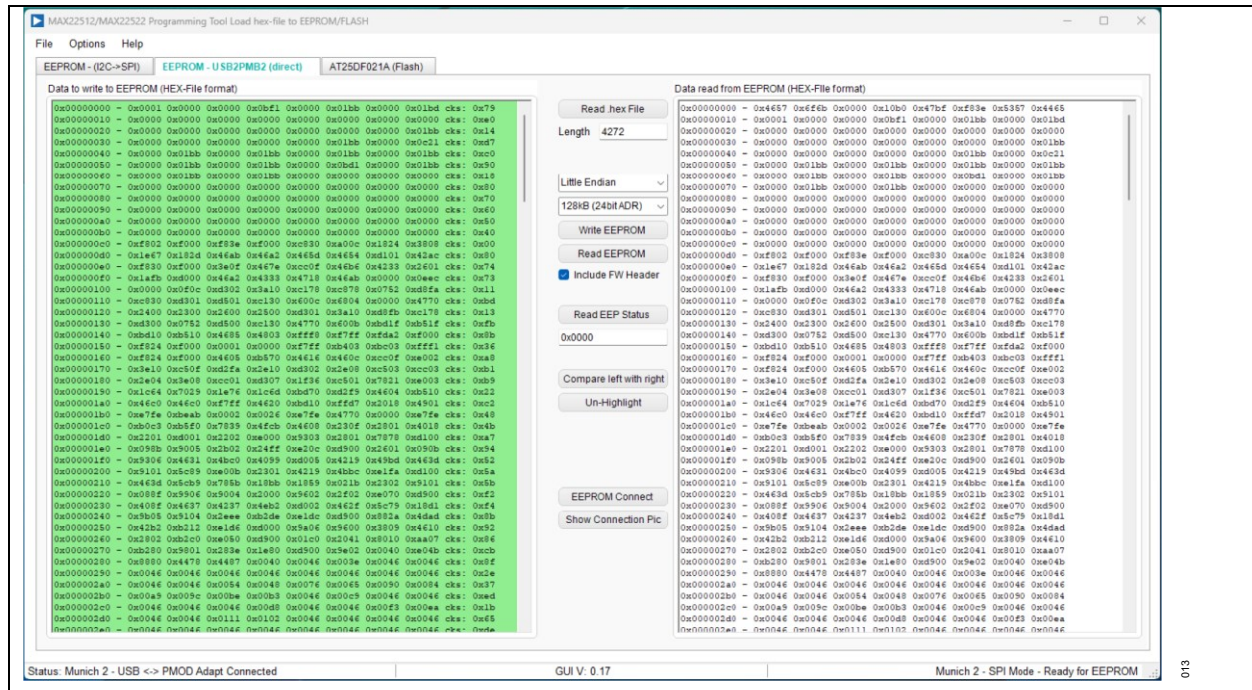

Figure 12. Data Read from EEPROM Window after EEPROM Write
- To verify data is programmed to the EEPROM, click the **Read EEPROM** button. Data from the EEPROM is read and printed in the right-side window, **Data read from EEPROM (HEX-File format)**. Click the **Read EEP Status** button or **Compare left with right** button to verify the data read from EEPROM is the same as the data written to the EEPROM. See Figure 12.